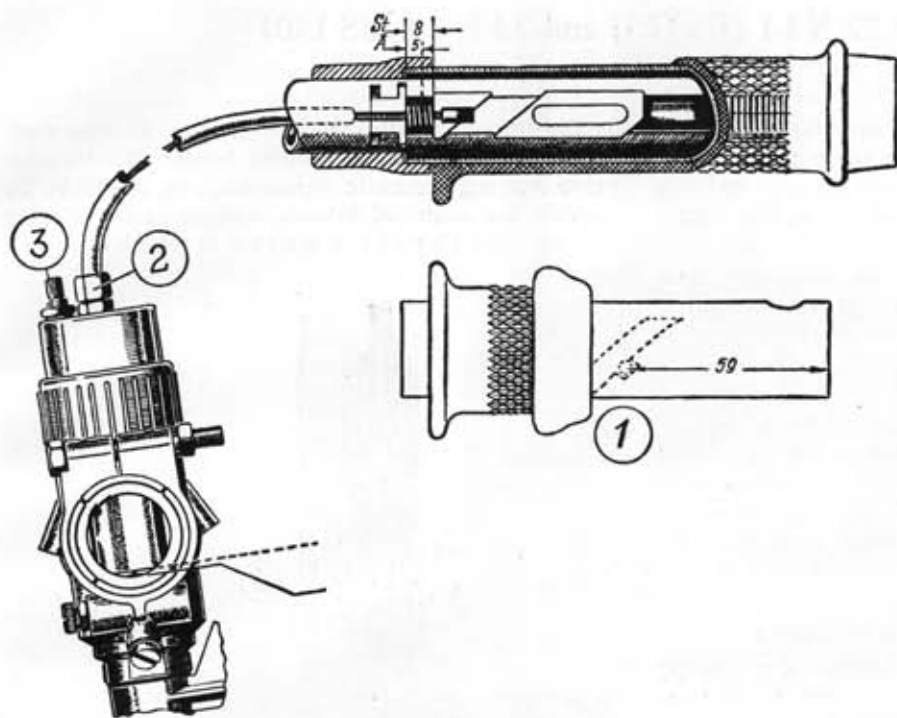

Fig. 111. Stop spring
Remove the stop lug (1) from the twist-grip (unless you prefer to buy a new twist-grip without stop lug). For this purpose roll back the rubber cover and punch the stop in the centre, as shown in Fig. 111. The linear measurement is given, as to the lateral position take sight through the tubular handle bar. Put a suitable piece of round wood into the tubular handle bar for punch-marking and drilling (as a makeshift, a broom handle will do) to protect the spot-welded flexible steel conduit from damage. For the same reason sharpen the 4- or 4.5-mm drill before drilling.